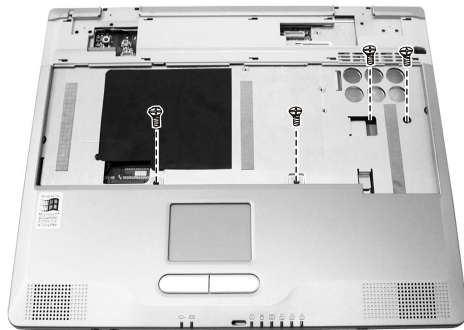

Figure 2-20 Remove four screws
2. Remove two screws fastening the top cover and remove two screws fastening the housing. (Figure 2-20)